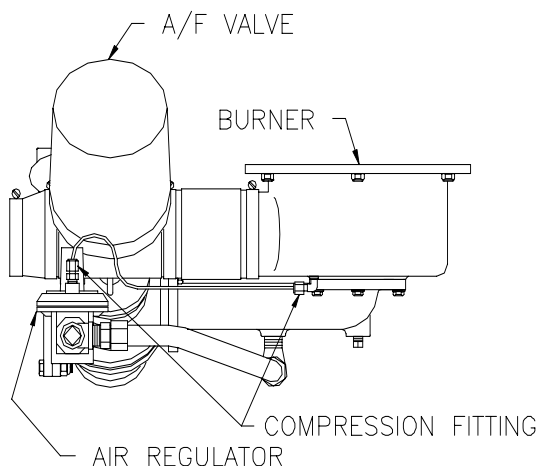

Figure 7.9
2. Using a wrench, loosen the two compression fittings holding the 1/4" feedback tube between the burner and air regulator and remove the feedback tube (See Fig. 7.9).